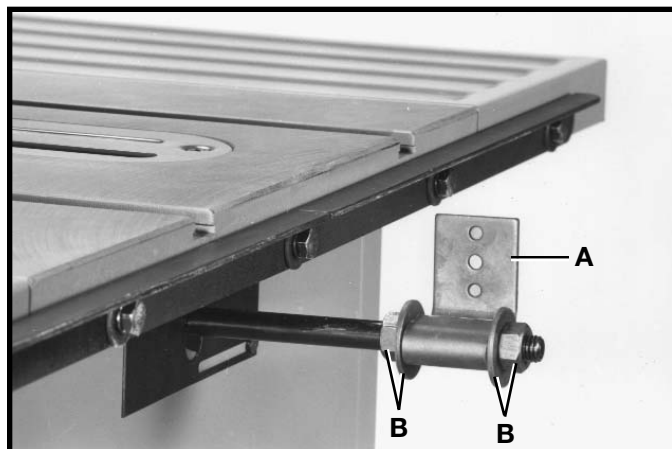

Fig. 26
2. Assemble splitter bracket (A) to the end of the guard support rod using the two hex nuts and flat washers (B), as shown in Fig. 26.